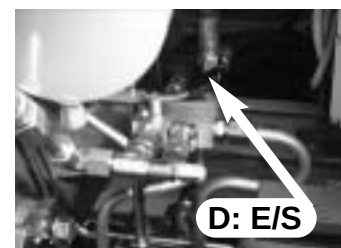

fig. 20b
- Position lever **D** of oil diverter crane-outriggers (? - E/S) on E/S. Fig. 20b
- Position lever **D** of oil diverter crane-outriggers ( - **E/S**) on **E/S**. Fig. 20b